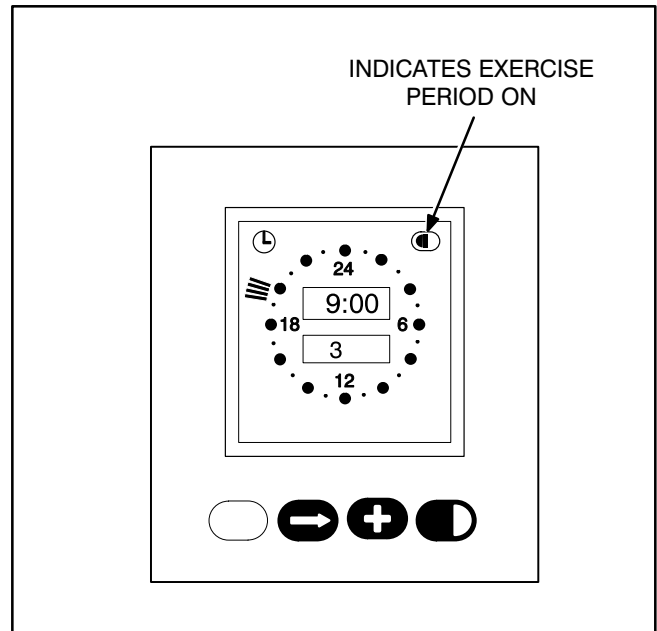

FIGURE 4-1. EXERCISER CLOCK
3. If present, check the exerciser clock to see if it is in an exercise period. When the exerciser clock is in an exercise period, the On mode is indicated in the ellipse in the upper right corner of the display and the genset should be running (Figure 4-1).
3. If presetn, check the exerciser clock to see if it is in an exercise period. When the exerciser clock is in an exercise period, the On mode is indicated in the ellipse in the upper right corner of the display (Figure 4-1). If the exercise clock is not in the On mode, check the programming in Section 2.